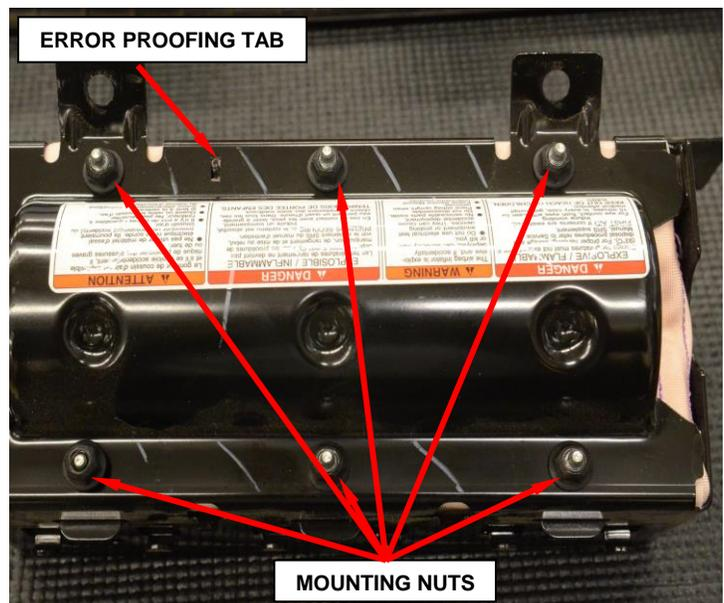

Figure 26 – Mounting Nuts
NOTE: Ensure proper inflator assembly fit. Note error proofing tab when reassembling to cushion (Figure 26).
- m. Install the six new mounting nuts and tighten to 88 in. lbs. (10 N·m) (Figure 26).